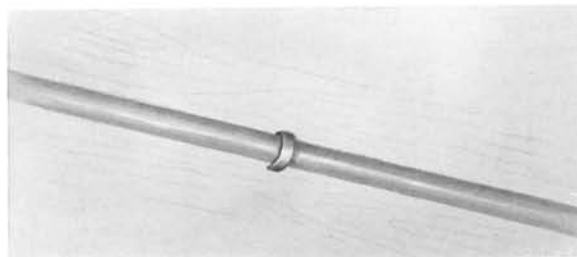

FIG. 18—LP-, M-, OR TM-TYPE STAPLE
7.04 The LP-, M-, or TM-Type Staple is shown in Fig. 18.